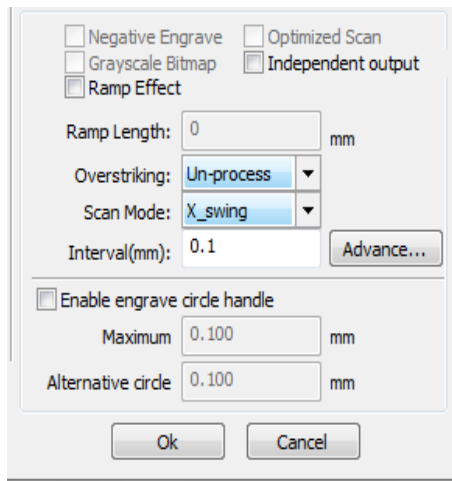

Figure 96
Figure 96 illustrates the Layer Parameter pop-up as it appears when a vector object layer is selected and Processing Mode is set to Scan.
**Vector Scan:** does not support certain functions. In **Figure 96** the unsupported ones are grayed out.